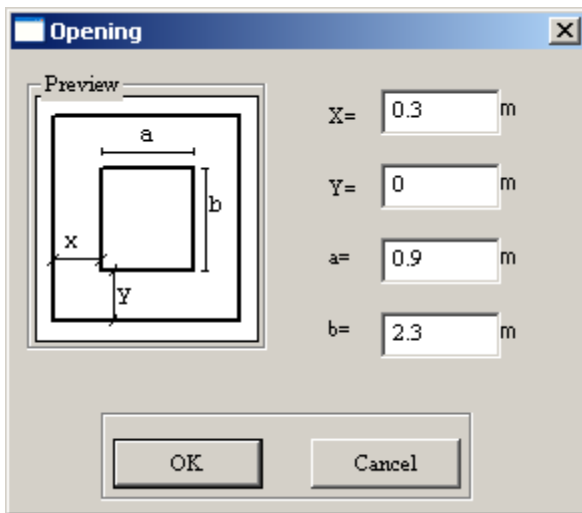

Figure 1.6.1 **Opening** dialog box
- in the **Opening** dialog box (see Fig.1.6.1), define the following parameters: